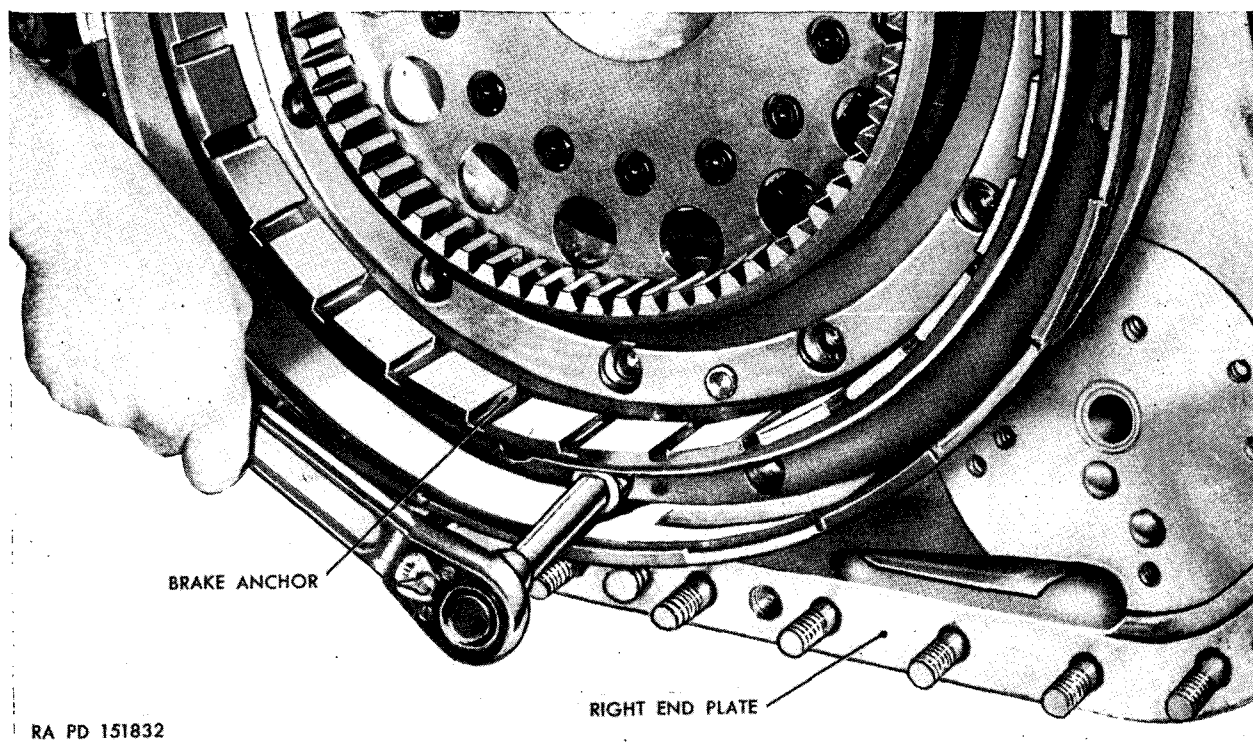
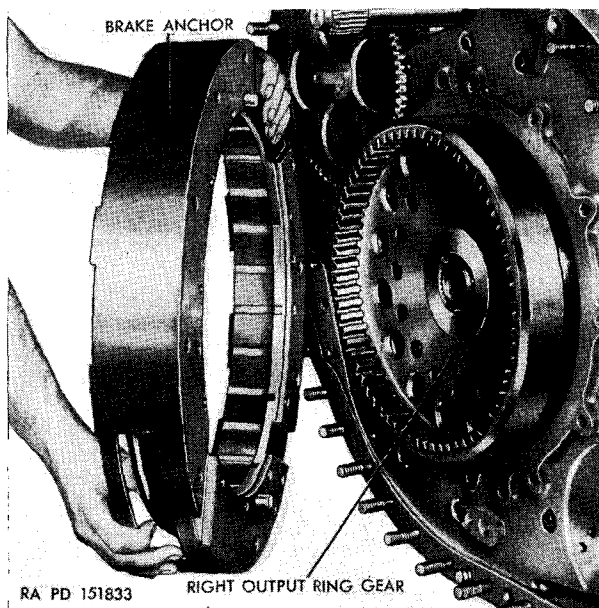

Figure 93. Removing or installing brake-anchor bolts.
Figure 94. Removing or installing brake anchor.
- (13) Remove the 10 bolts from the inner-bolt circle and one bolt from the outer-bolt circle of the brake anchor (fig. 93). Lift off the brake anchor (fig. 94).